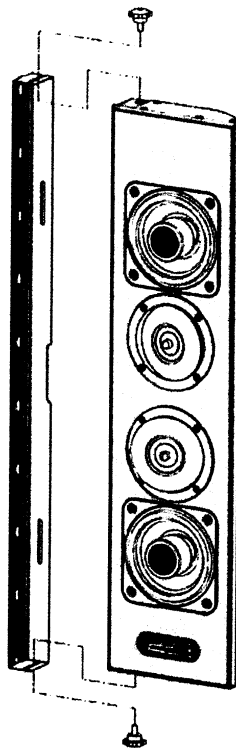

FIGURE 11
20. Remove the LCR DM Bracket from the speakers by loosening the 2 thumbscrews in a counter-clockwise direction. **Refer to FIGURE 11.**
2. Carefully slip off the bracket. **Refer to FIGURE 11. NOTE: DO NOT place the LCR face down as this may permanently damage the drivers.**